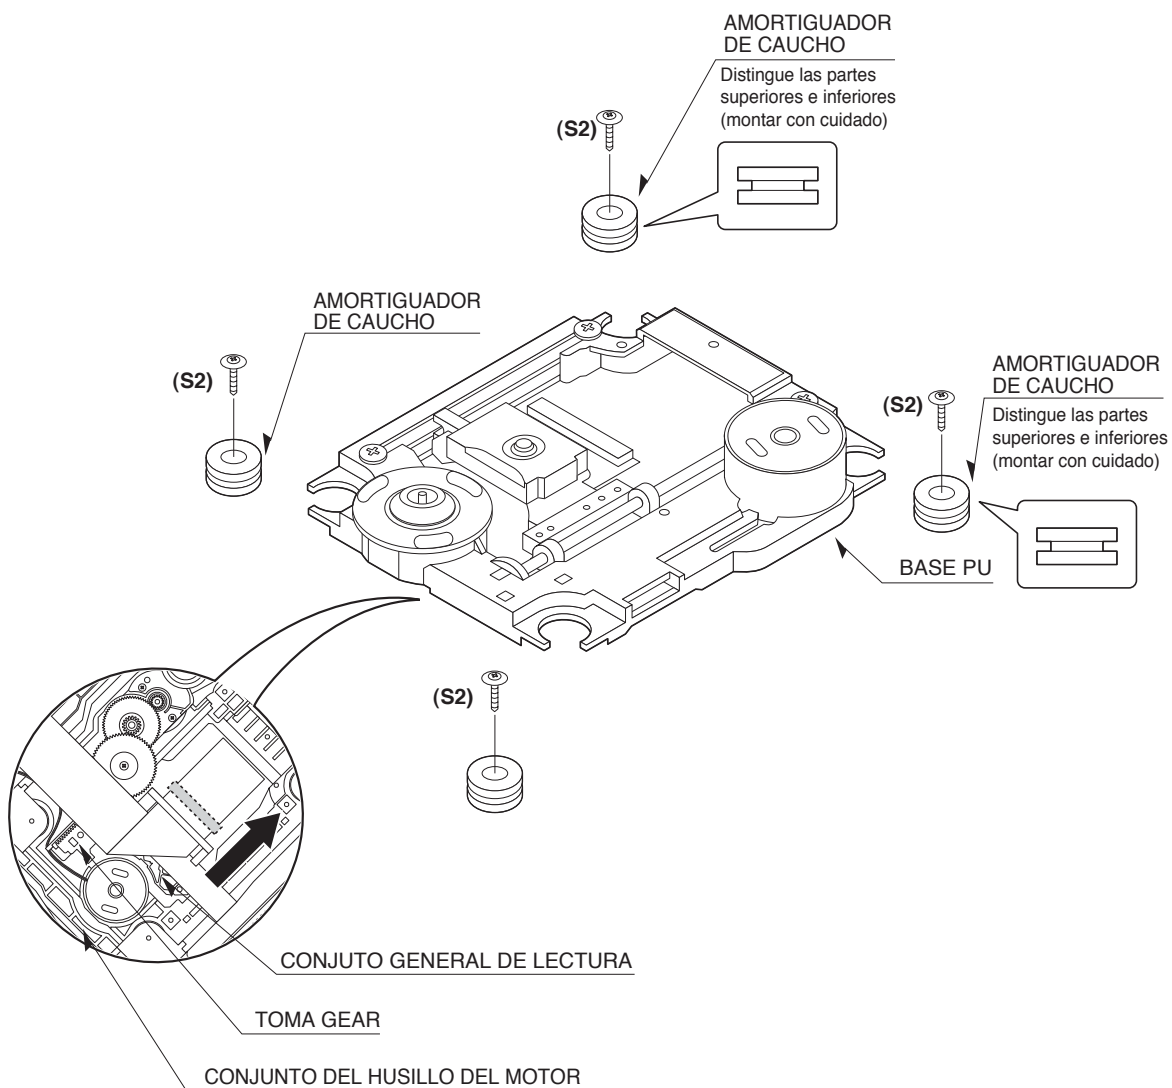

FIG. 4-3
3. SLED DEL CONJUNTO BASE (FIG. 4-3)
4. CAUCHO POSTERIOR (FIG. 4-3)